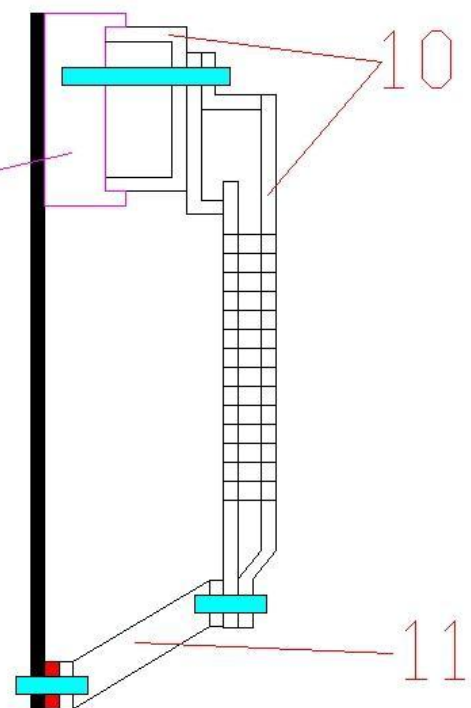

Fig. 2
The brake lever guards (10) can be now folded up. Separate the lever guard from the lever guard bracket and fold the lever guard along with the lever guard bracket as per Fig. 2. Solder the lever guard and bracket together using 0.31mm wire. Trim the wire but make sure that the wire projects beyond the bracket to form a pin to enable the assembly to be located to the solebar.